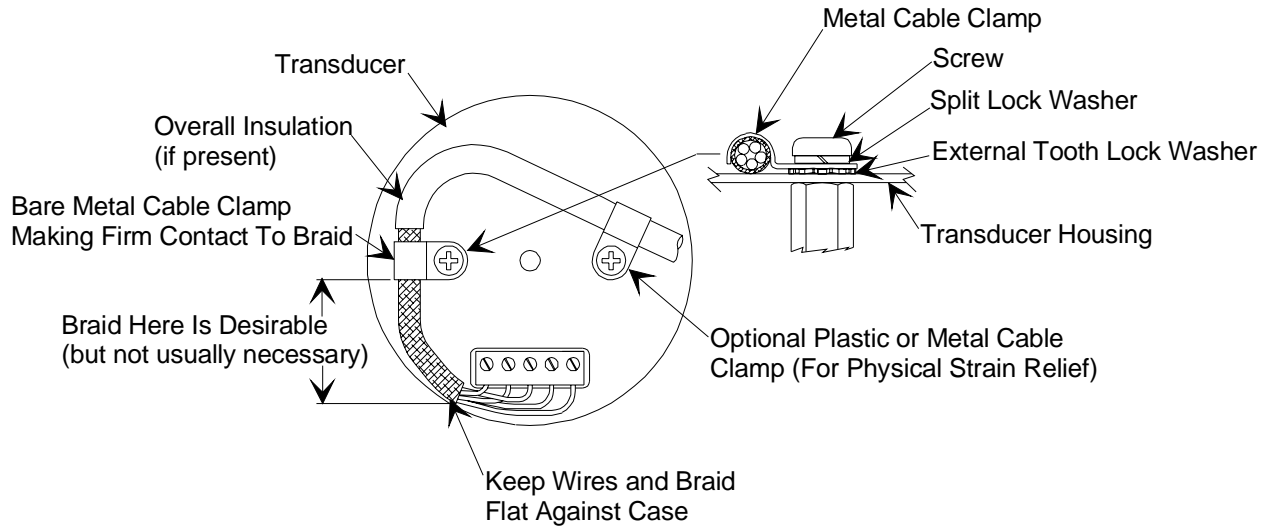

Figure 2: Preferred Method To Connect an Overall Metal Braided Shielded Cable
4. For shielded cables with flying leads at one or both ends; it is important at each such end, to ground the shield *before* the wires exit. Make this ground with absolute minimum length. Refer to Figures 2 and 3, page 24. (A ¼ inch piece of #22 wire may be undesirably long since it has approximately 5 nH of inductance, equivalent to 31 ohms at 1000 MHz). After picking up the braid's ground, keep wires and braid flat against the case. With very few exceptions, grounded metal covers are not required over terminal strips. If one is required, it will be stated in the Declaration of Conformity or in the instruction manual.